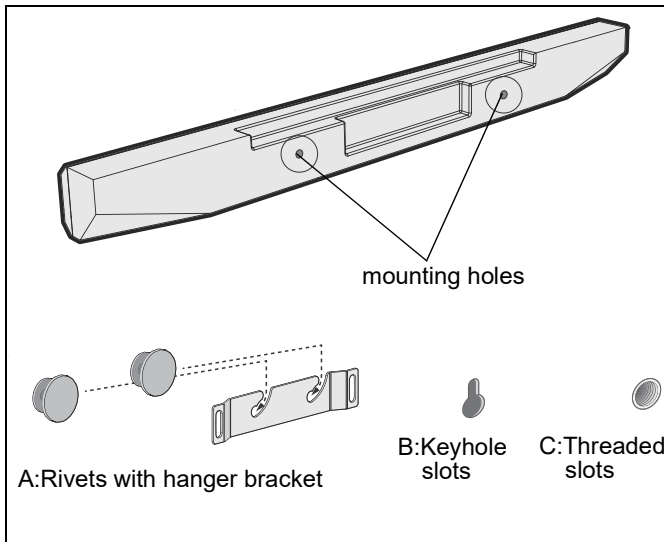

Figure 1
- Look at the mounting holes on the back of soundbar to determine install method. (See Figure 1)